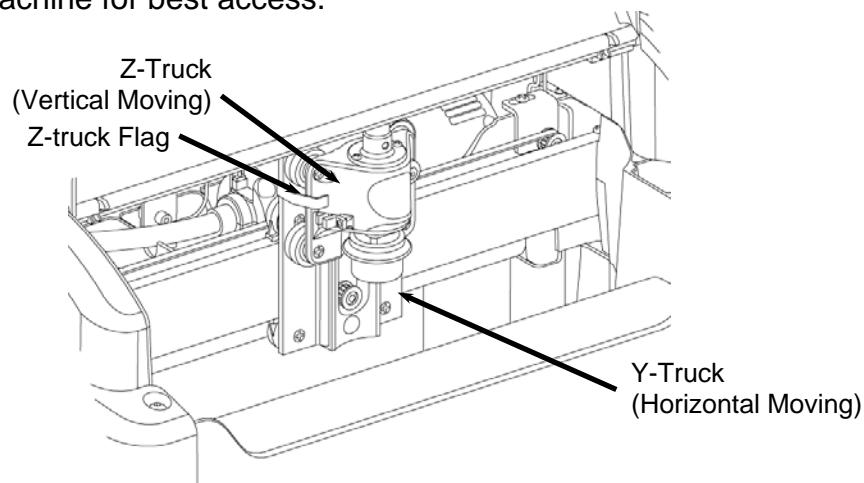
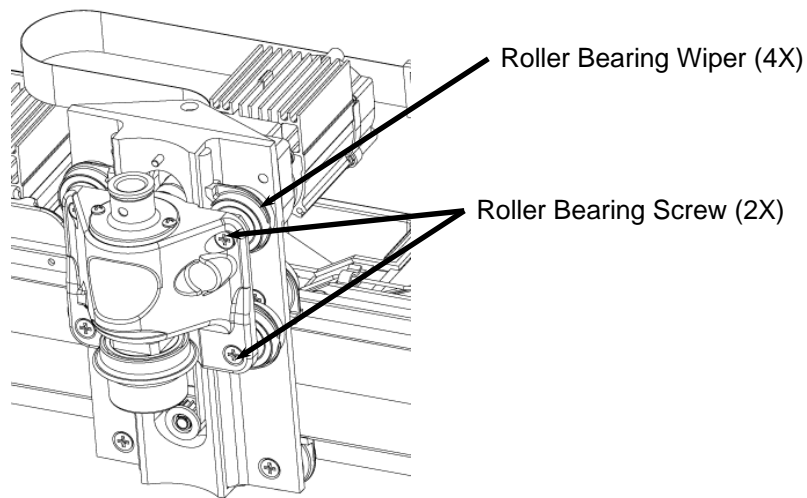

FIGURE 1: VIEW OF THE Z-TRUCK
FIGURE 9: VIEW OF THE Z-TRUCK ROLLERS
8. **Remove the roller bearing wipers:** Remove all four of the roller bearing wipers on the Z-truck by simply pulling them off (See Figure 9). Also if your machine still has a Z-truck Flag, as in Figure 1, you may remove it permanently. It is no longer used or needed.